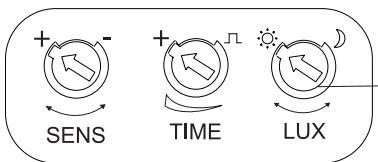

Fig. 2
- Step 2: Turn the knobs to the ideal conditions (as Fig.2)